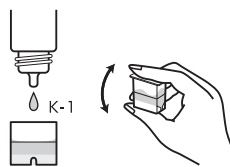

Fig.2
4. Add 4 drops of K-1 reagent into the cell. Put the cap and shake the cell 2 - 3 times. (Fig.2)